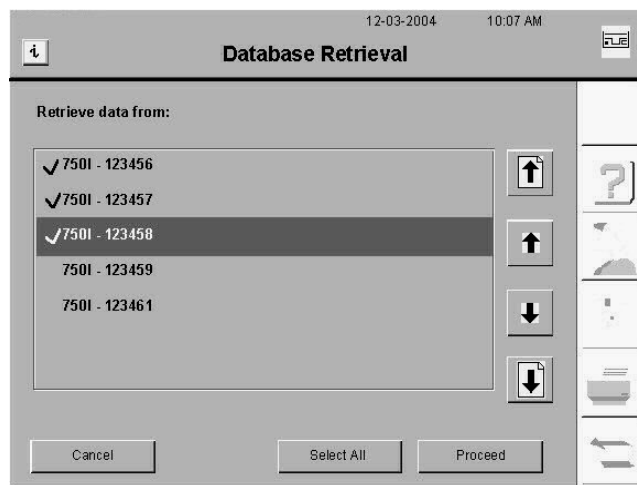

Figure I.24 Database Retrieval Screen
- 6 The Database Retrieval screen will appear as is shown in Figure I.24 below.
Note: The list shown in Figure I.24 shows only the HFAs for which an archive folder has been created with the Create Archive Folder button or during either an automatic or manual archive operation.